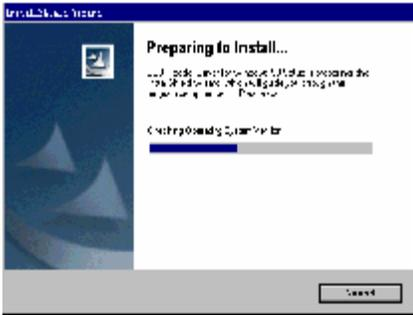

Figure 3-18
4. Find and Double click on setup.exe file in the catalogue of CD-ROM. The system will make preparation for the installation. See Figure 3-18.